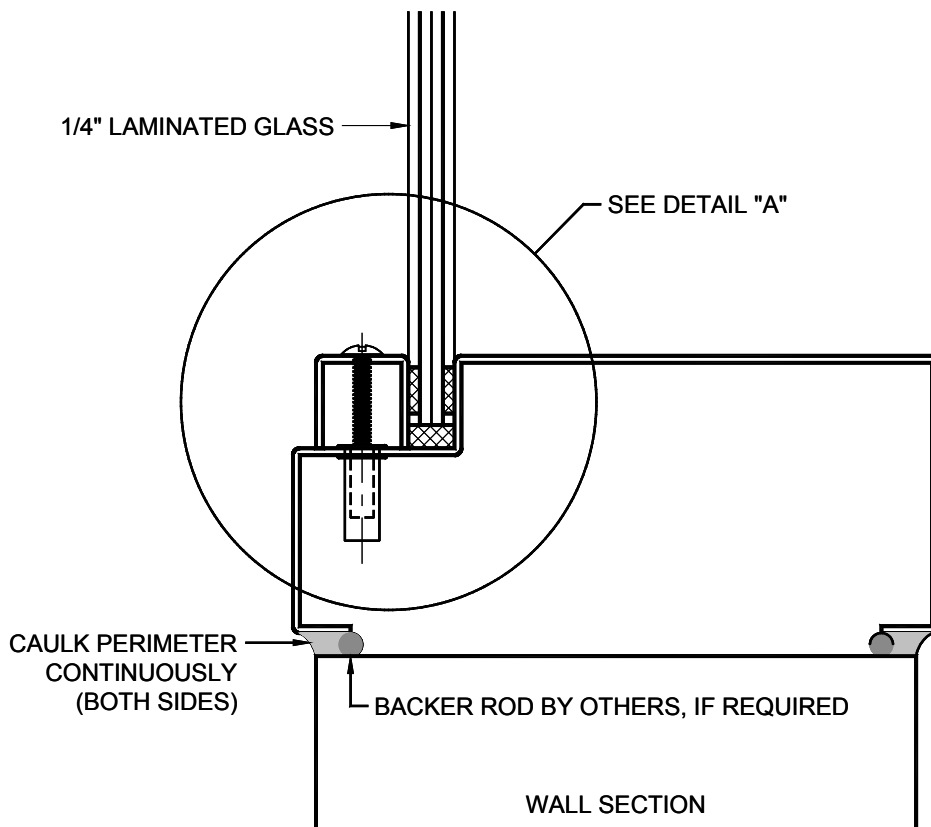

FIGURE 2
- G. Caulk frame continuously around perimeter of frame on both sides as shown in Figure 2.
- F. Caulk frame continuously around perimeter of frame on both sides as shown in Figure 2.
- D. Caulk frame continuously around perimeter of frame on both sides as shown in Figure 2.
- D. Caulk frame continuously around perimeter of frame on both sides as shown in figure 2.
- A. Locate the 3/16" x 1/2" adhesive backed sponge neoprene on the sill portion of the frame rabbet as shown in **Figure 2**, holding it 1/8" from the stop of the frame.
- B. Place 3/16" x 1/2" adhesive backed neoprene continuously around perimeter of frame stop, as shown in **Figure 2**, **Detail "A"**.
- C. Place 3/16" x 1/2" adhesive backed sponge neoprene on the entire length of each loose stop as shown in **Figure 2**, **Detail "A"**.